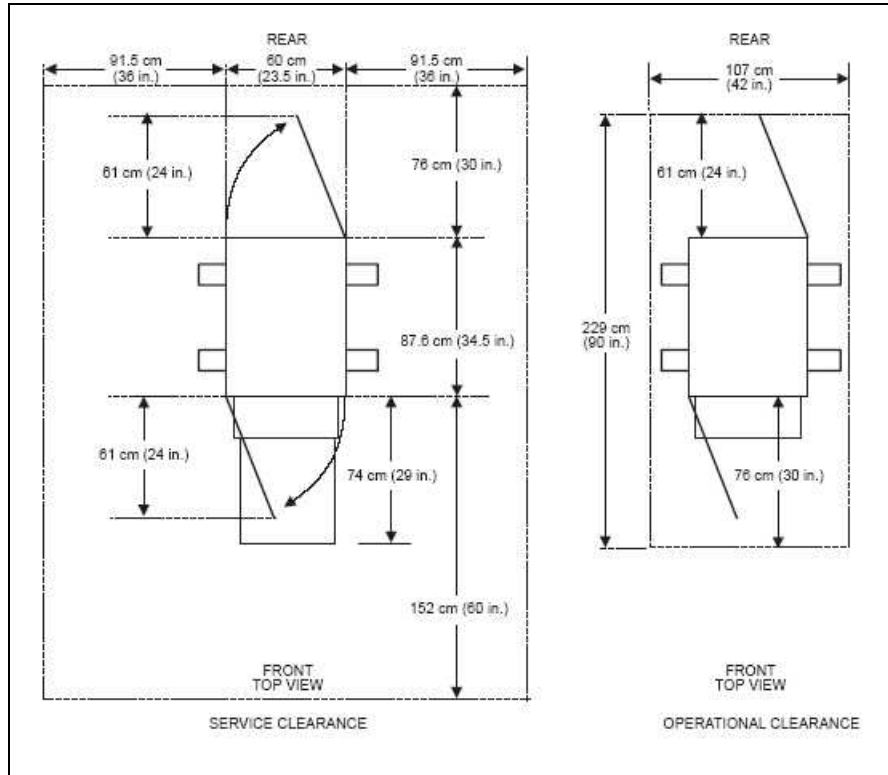

Figure 2-1 9306 Enterprise rack space requirements
You need at least 152 cm (60 inches) of clearance at the front and at least 76 cm (30 inches) at the rear of the 42-U rack suites. This space is necessary for opening the front and rear doors and for installing and servicing the rack. It also allows air circulation for cooling the equipment in the rack. All vertical rack measurements are given in rack units (U). One U is equal to 4.45 cm (1.75 inches). The U levels are marked on labels on one front mounting rail and one rear mounting rail. Figure 2-1 shows an example of the required service clearances for a 9306-900 42U rack. Check with the manufacturer of the rack for the statement on clearances.